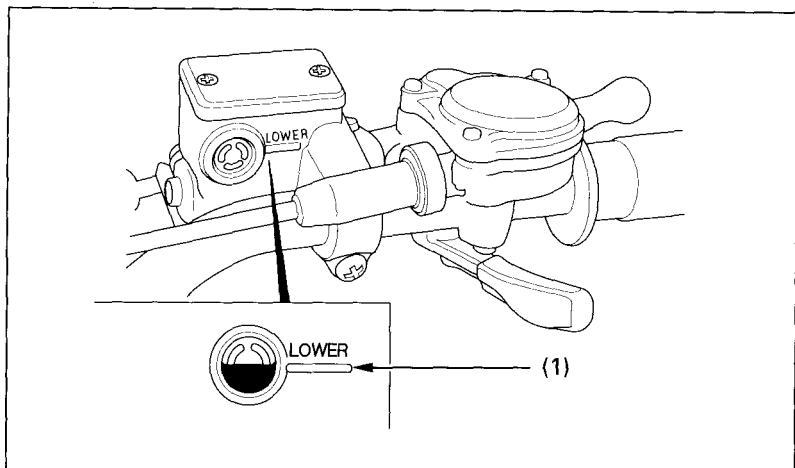

Fig. 4-25
Brake fluid must be added to the reservoir (Fig. 4-25) whenever the fluid level approaches the lower level mark (1). Use only DOT3 or 4 brake fluid and have it added by an authorized Honda dealer.